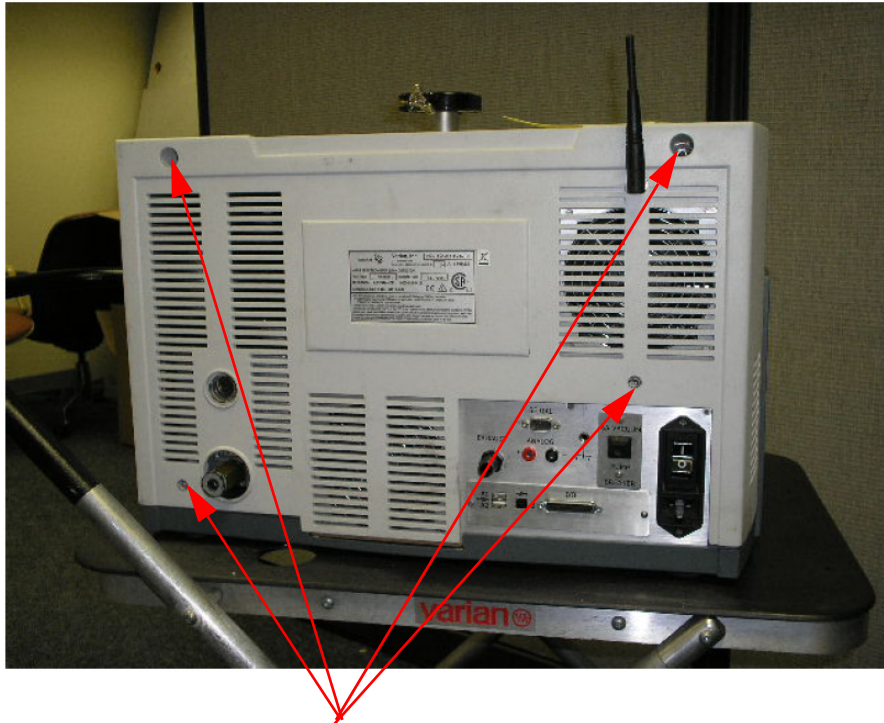

Figure 1-1 Rear Cover Screws
1. Using the extended 5 mm hex wrench, remove the four (4) screws holding the leak detector rear cover (Figure 1-1).